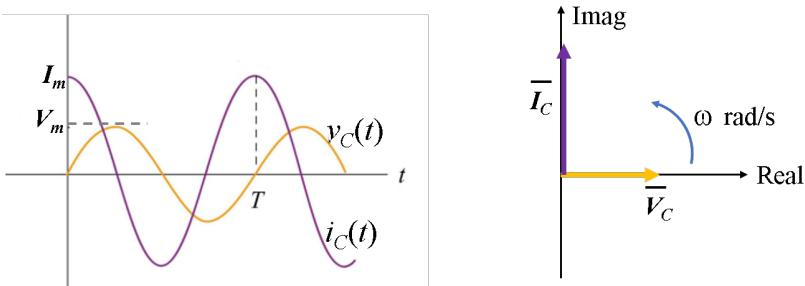

Figure 21: Voltage waveform and current waveform of a capacitor (left) and the phasor diagram (right)
**It is a negative imaginary number with its magnitude equal to  $\frac{1}{\omega C}$ , the reactance of the capacitor.** The voltage phasor and the current phasor of a capacitor are shown in the phasor diagram in Figure 21 (right).